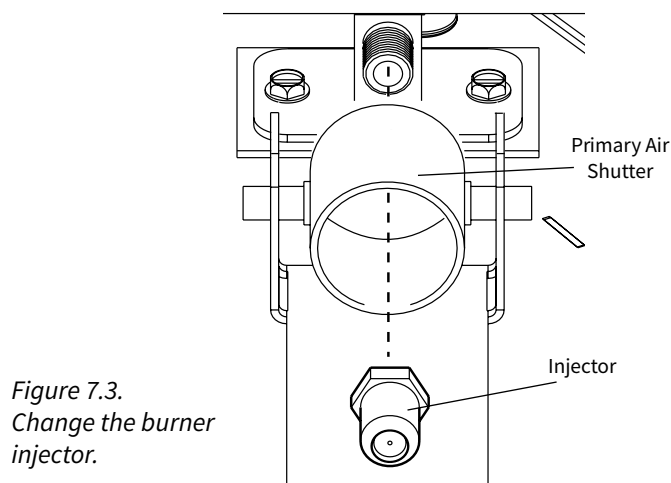

Figure 7.3.
6. **Change the Burner Injector.** See fig. 7.3. Using a 1/2"